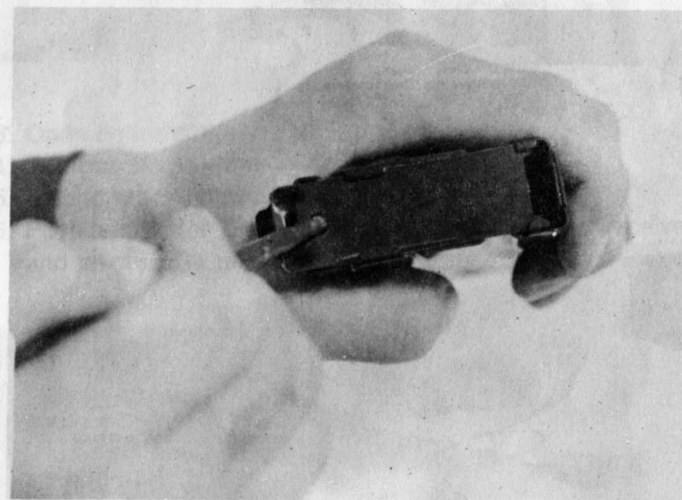

Fig. 12
- With the cleaning rod pry up and push out to release the magazine base catch (Fig. 12).